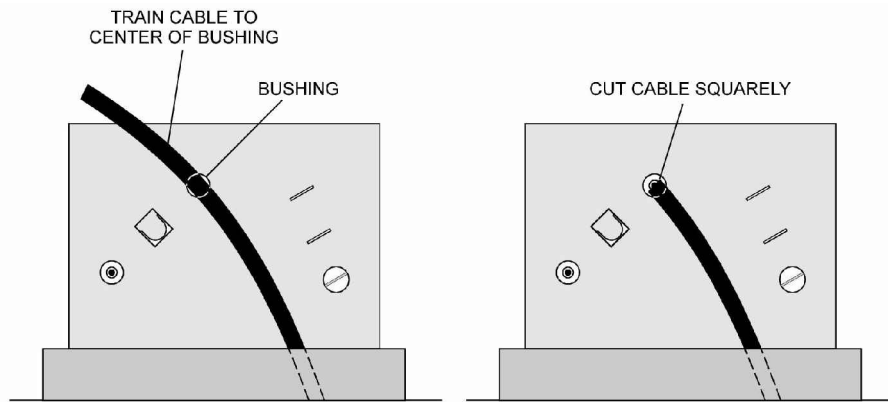

FIGURE 3
- STEP 2: TRAIN CABLE TO THE CENTER OF THE TRANSFORMER BUSHING AS SHOWN IN FIGURE 3. THE CABLE MUST FORM A GRADUAL ARC FROM THE GROUND TO THE BUSHING IN ORDER TO PROVIDE ENOUGH CABLE TO REACH BOTH BUSHINGS AND THE STANDOFF BRACKET. THIS WILL ALLOW FOR FUTURE SWITCHING.